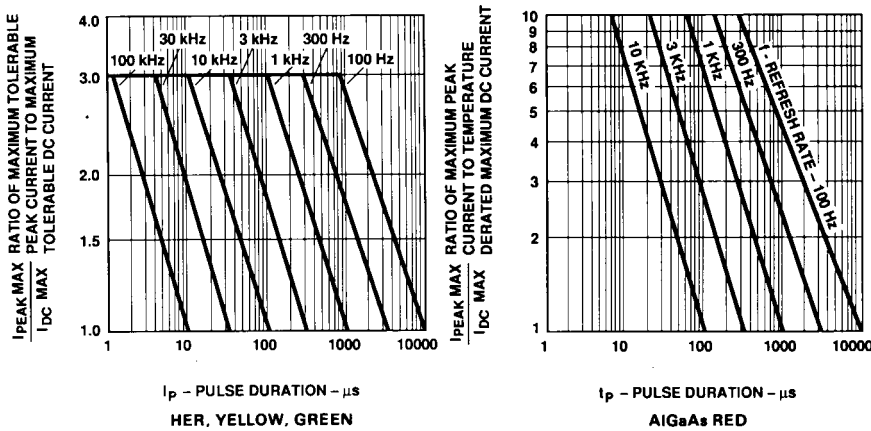

Figure 5. Maximum Tolerable Peak Current vs. Peak Duration ( $I_{PEAK MAX}$  Determined from Temperature Derated  $I_{DC MAX}$ ).
- See Figure 5 to establish pulsed operating conditions.